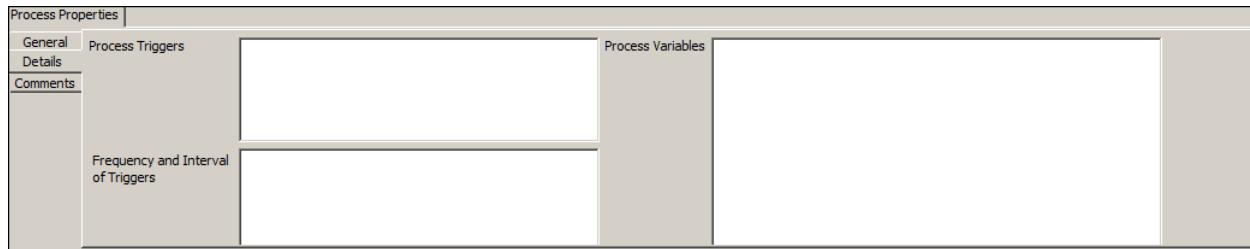

Figure 5: Details Properties
- Click **Details** tab to display all detailed properties for the process model (see Figure 5).